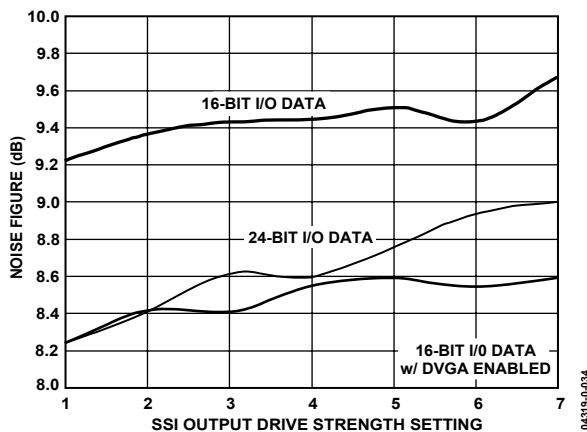
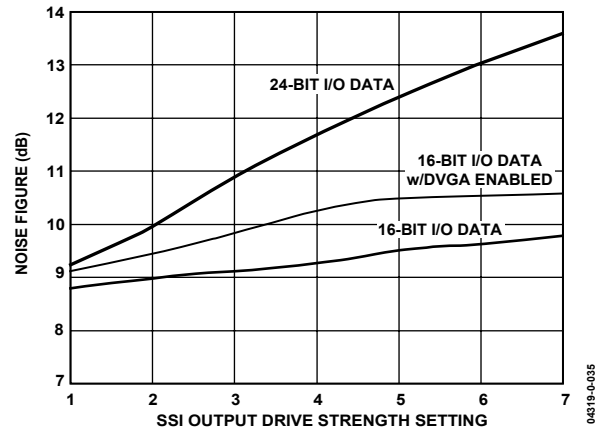

Figure 35. NF vs. SSI Output Drive Strength
Figure 36. NF vs. SSI Output Drive Strength
The AD9864 also provides the means for controlling the switching characteristics of the digital output signals via the drive strength (DS) field of the SSICRB. This feature is useful in limiting switching transients and noise from the digital output that may ultimately couple back into the analog signal path, potentially degrading the sensitivity performance of the AD9864. Figure 35 and Figure 36 show how the NF can vary as a function of the SSI setting for an IF frequency of 109.65 MHz. The following two observations can be made from these figures: